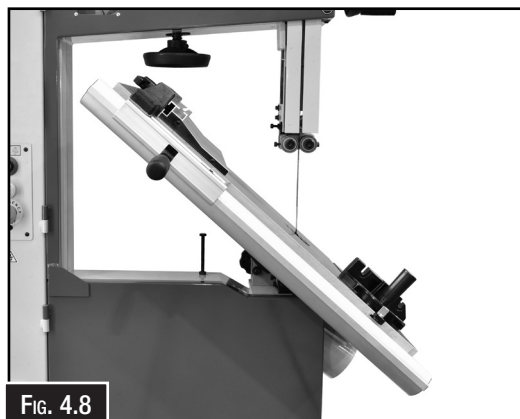

FIG. 4.8
5. With the help of another person, lift the table onto the table mount. (Fig.4.8)